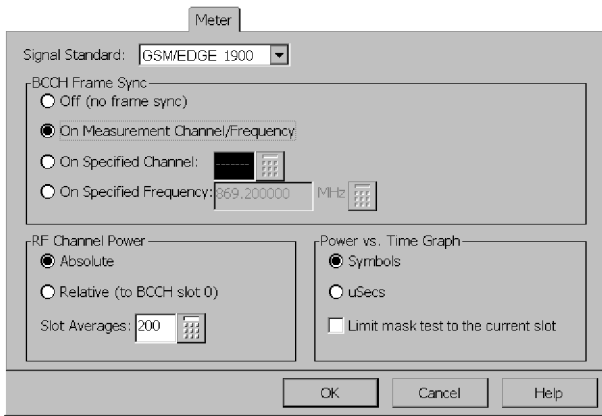

Figure 3-34: GSM/EDGE RF Power measurement parameters
3. Select a GSM/EDGE signal standard from the list at the top of the window. See Figure 3-34.